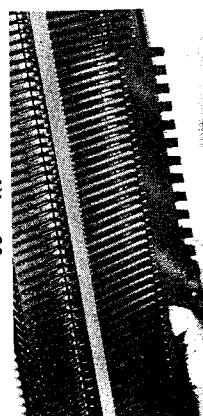

Fig. 33
H. Using the edge of a needle pusher, bring forward to position B (about  $\frac{1}{2}$ " from the resting position) the desired number of needles. (See Fig. 33)